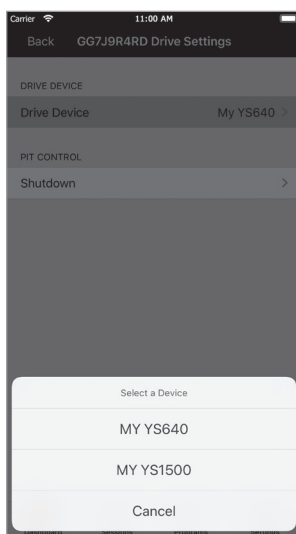

FIG 33
- Tapping the small wrench icon in the upper right of the gray bar will take you to a section that allows you to choose between multiple cookers (if you have more than one paired to your mobile device) (**FIG 33**) and also allows you to shut down your cooker (**FIG 34**).